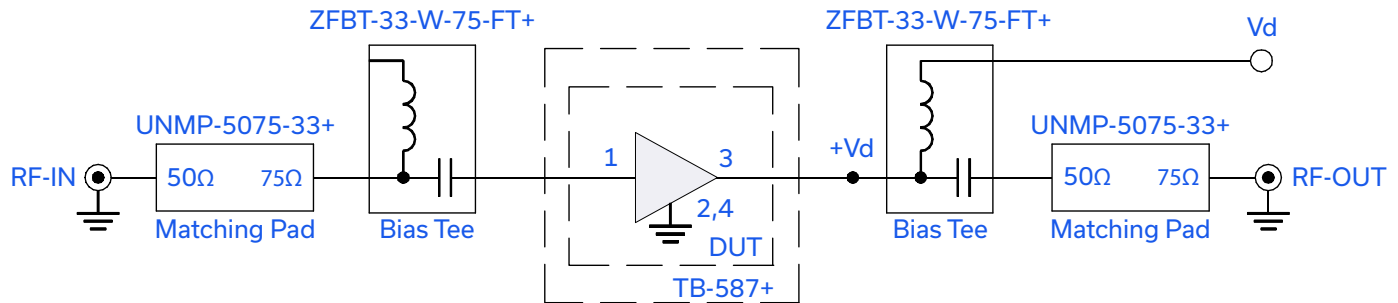

Fig 1. Block Diagram of Test Circuit used for characterization. (DUT tested on Mini-Circuits Characterization test board TB-587+)
1. Measured on Mini-Circuits Characterization Test board TB-587+. See Characterization Test Circuit (Fig. 1).